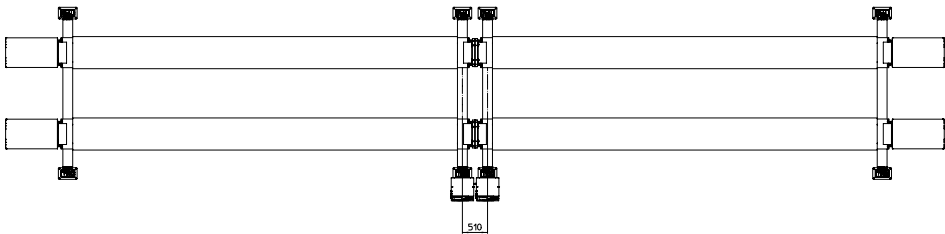

Figure 42: Tandem configuration without bridge part
2. See figure Figure 41: Tandem configuration with bridge part on page 98 for a version with bridge parts and Figure 42: Tandem configuration without bridge part on page 98 for version without bridge parts.